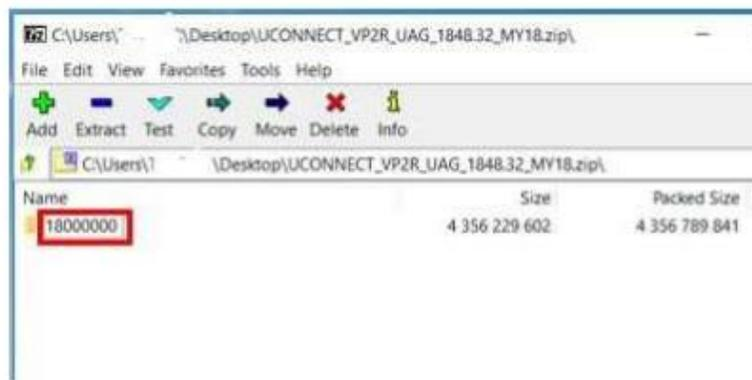

Figure 4 – Extracted File
7. Be sure to download the file to your PC’s desktop and open it (Figure 4).